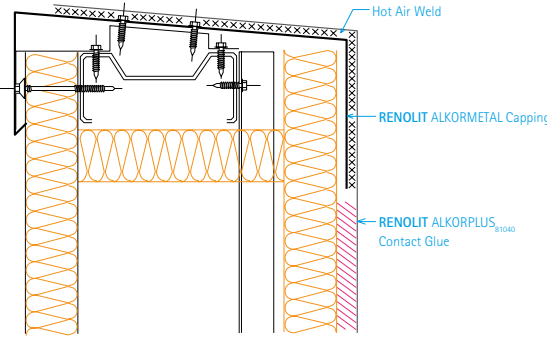

fig. 5: Double-sided gluing of parapets
• Parapets can also be adhered to achieve a wind-tight detail. (See fig. 5) Here, the **RENOLIT ALKORPLUS 81040** contact glue is applied to the entire surface of both membrane and upstand with a minimum consumption of 2 x 150 g/m². The parapet will have an **RENOLIT ALKORPLAN** metal trim, but compressive foam and intermediate fastening can be omitted.